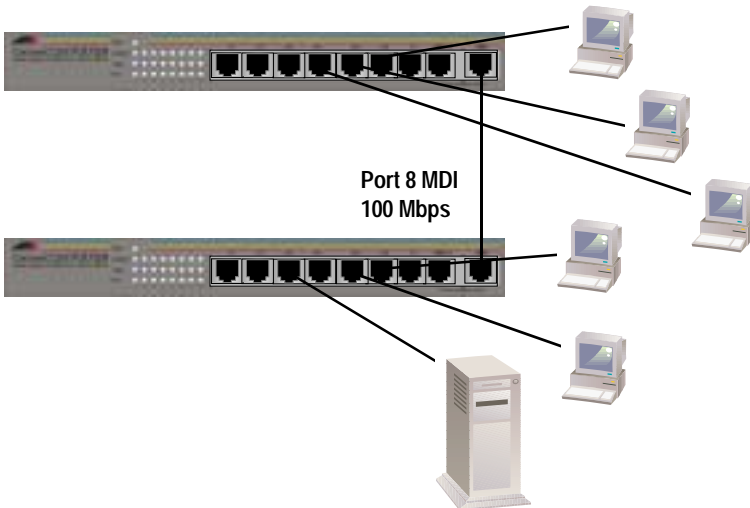

Figure 5 Cascading Switches
2. Use a straight-through UTP RJ45 cable to connect the first switch to the second switch. See Figure 5.